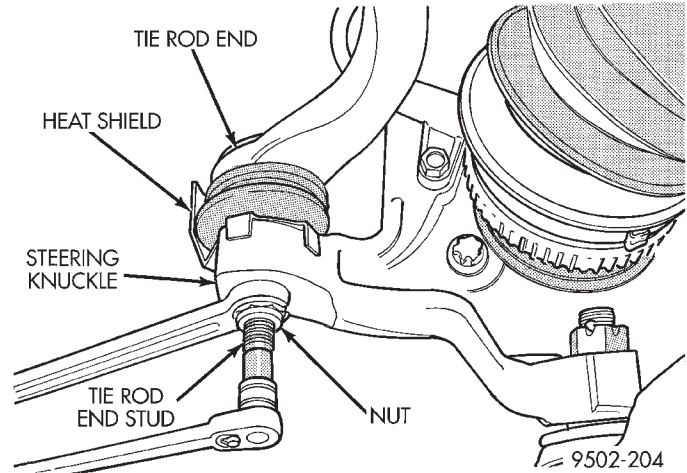

Fig. 6 Removing Tie Rod End Attaching Nut
(8) Remove braking disc from front hub.
(9) Remove nut attaching outer tie rod end to steering knuckle. **Remove nut from tie rod end by holding tie rod end stud with a 11/32 socket and loosen and remove nut (Fig. 6).**